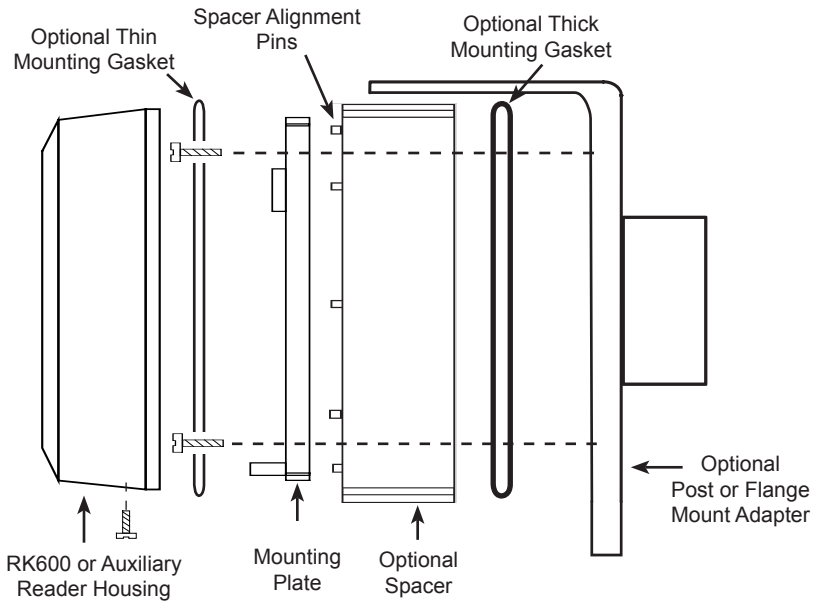

Figure 6 - Post/Flange Mounting
- c. If using the optional spacer, install the thick gasket between the spacer and the mounting surface, install the mounting plate and spacer using the two 6-32 x 1-1/2” screws supplied with the spacer, then place the thin gasket around the mounting plate (Figure 6).